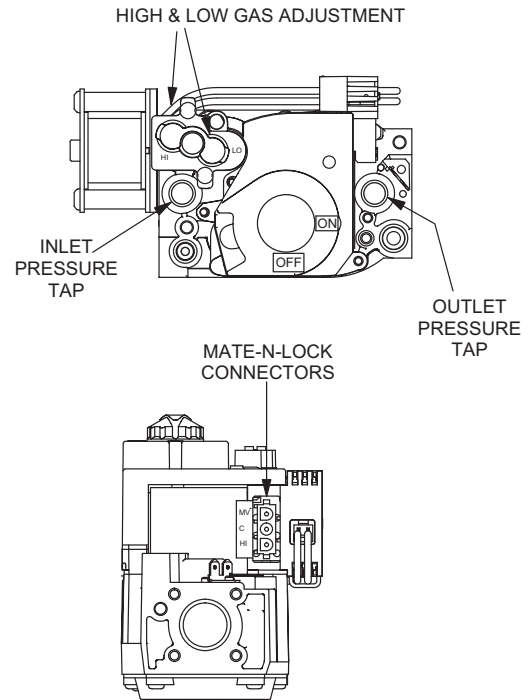

FIGURE 28 : TYPICAL GAS VALVE
3. Turn gas valve counter-clockwise to "ON" position (see Figure 28).
4. Turn gas valve clockwise to "OFF" position (See Figure 28).
This gas furnace has two heat stages. Therefore, the gas valve has two adjustment screws located under a plastic protective cover. The second stage (100% input) adjustment screw is adjacent to the "HI" marking on the valve and the first stage (60% input) adjustment screw is located adjacent to the "LO" marking on the valve (See Figure 28).